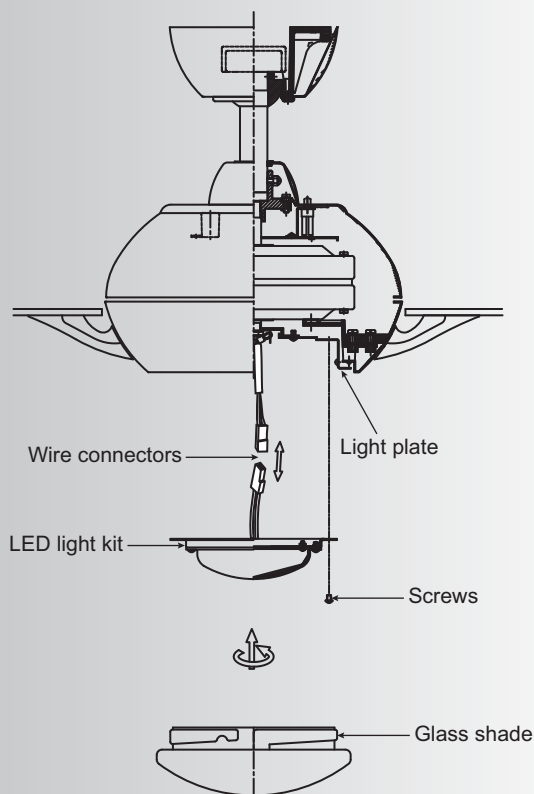

Fig. 19
Step 2. While holding the LED light kit under the fan motor, make the wire connections: (Fig. 19)
Step 3. Tuck the connections neatly into the light plate. Place the key holes on the LED light kit over the 2 screws previously loosened from the light plate, turn the LED light kit until it locks in place at the narrow section of the key holes. Secure by tightening all three screws. (Fig.19)
Step 4. Raise the glass shade against the LED light kit and turn clockwise until snug, **DO NOT OVERTIGHTEN.** (Fig. 19)